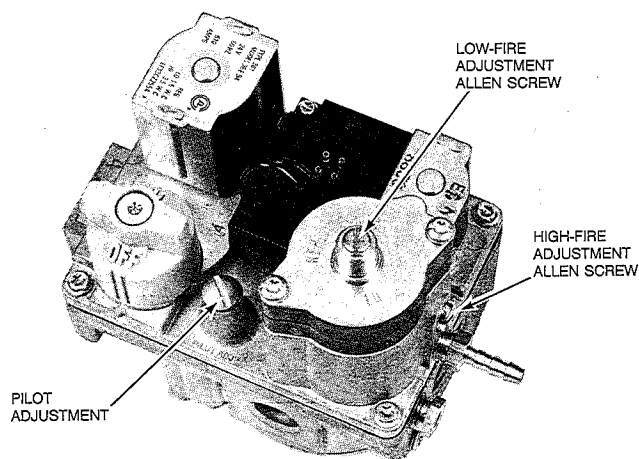

Fig. 20—Redundant Automatic Gas Valve A88322
- (1.) Locate adjustment screw marked "PILOT ADJ" on top of gas valve. (See Fig. 20.)
- a. Remove burner enclosure front and low-fire regulator adjustment seal cap. (See Fig. 20.)